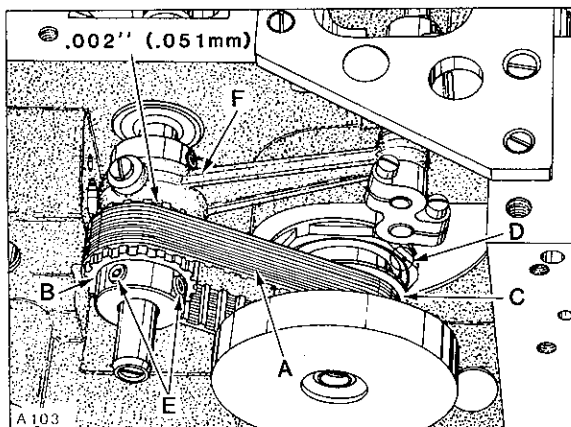

Fig. 4
NOTE: End cover has been removed for clarity in Figure 4, but **MUST BE IN POSITION WHILE MAKING THE FOLLOWING ADJUSTMENTS.**
Looper drive belt (A, Fig. 4) has proper tension if, when turning handwheel in operating direction to position looper in the center of its (right to left) travel ... there is no noticeable (right to left) play in the looper mechanism. There should be approximately 1/8 inch (3.2mm) deflection in looper drive belt when pressing firmly with thumb, midway between sprockets (B and C). Adjustment can be made by loosening two screws (A, Fig. 5) and turn looper module (D, Fig. 4) counterclockwise to tighten belt or clockwise to loosen, as viewed in Figure 4. Retighten screws (A, Fig. 5).
Rotate handwheel in REVERSE direction until pin in looper holder again makes contact with gauge plate and note the reading on the gauge. A variation of (1) graduation on the scale is permissible. If the reading is above "0", loosen screws (E, Fig. 4) and turn rear looper drive sprocket (B) towards the operator (clockwise as viewed in Figure 4). If the reading is below "0", turn sprocket away from operator (counterclockwise as viewed in Figure 4). Temporarily snug screws.
Rotate handwheel in OPERATING direction until pin in looper holder contacts gauge plate and note the reading on scale. If the reading is above "0", loosen screws (E) and turn sprocket (B) away from operator (counterclockwise as viewed in Figure 4). If the reading is below "0", turn sprocket towards the operator (clockwise as viewed in Figure 4). Temporarily snug screws.
side of RIGHT needle and check the distance from the eye of needle to the bottom of looper blade. If the distance was greater when handwheel was turned in operating direction, as shown in Sketch B, loosen screws (E, Fig. 4) and turn rear looper drive sprocket (B) away from operator
(counterclockwise as viewed in Figure 4). If the distance was greater when handwheel was turned in reverse direction, as viewed in Sketch C, turn sprocket towards the operator (clockwise as shown in Figure 4). Temporarily snug screws. Continue to check and adjust in both OPERATING and REVERSE
directions until the distance from the eye of the right needle to the bottom of looper blade is the same in either direction, as shown in Sketch D. Before tightening screws (E, Fig. 4) securely, be sure to have .002 inch (.051mm) clearance between sprocket (B) and needle guard drive connecting rod (F).